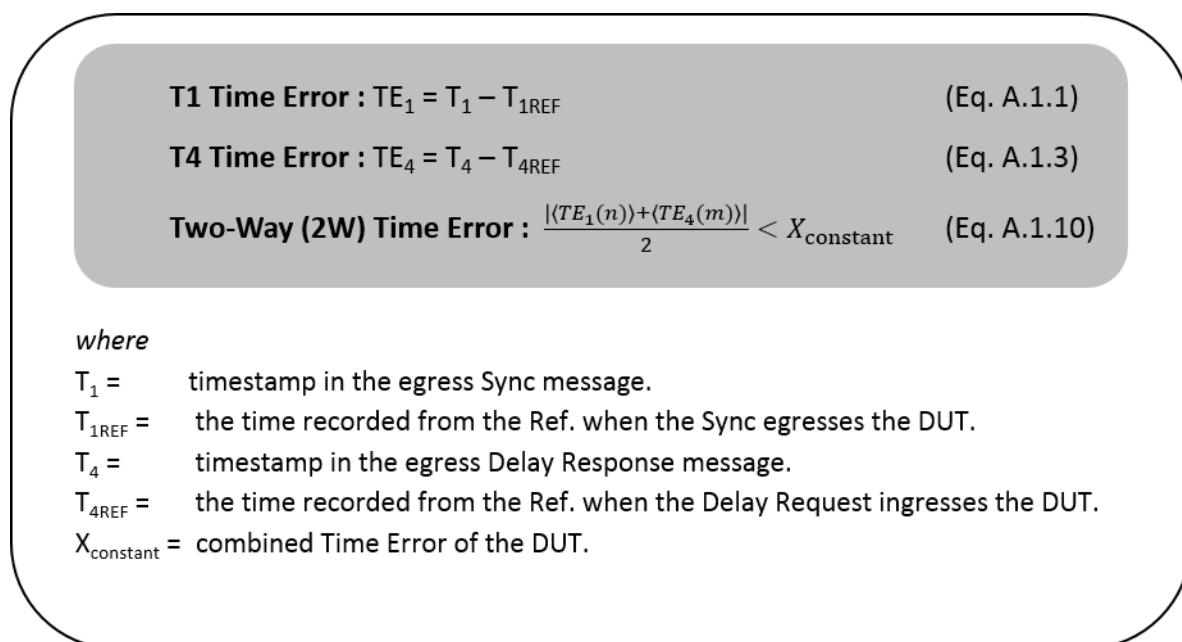

Figure 2
G.8273 provides the following equations (Fig.2) for the calculation of Time Error on egress 1588 flows.